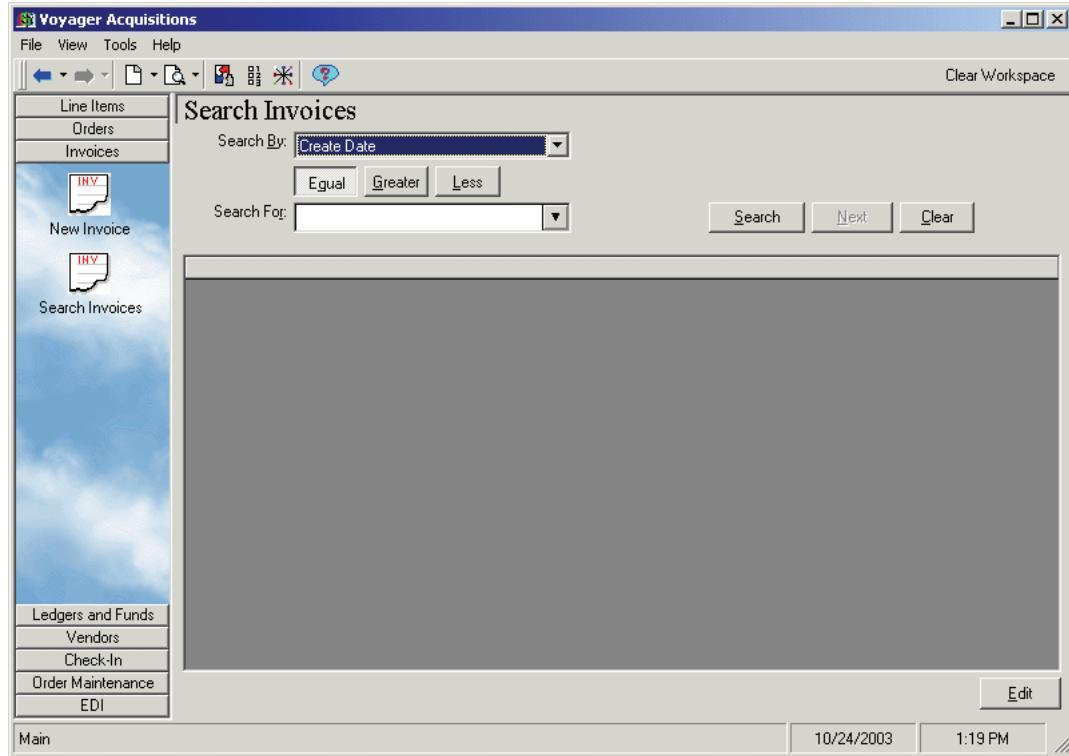

Figure 12-3. Search Invoices workspace
- **Search Invoices** button (Figure 12-1) to access the **Search Invoices** workspace (see Figure 12-3).